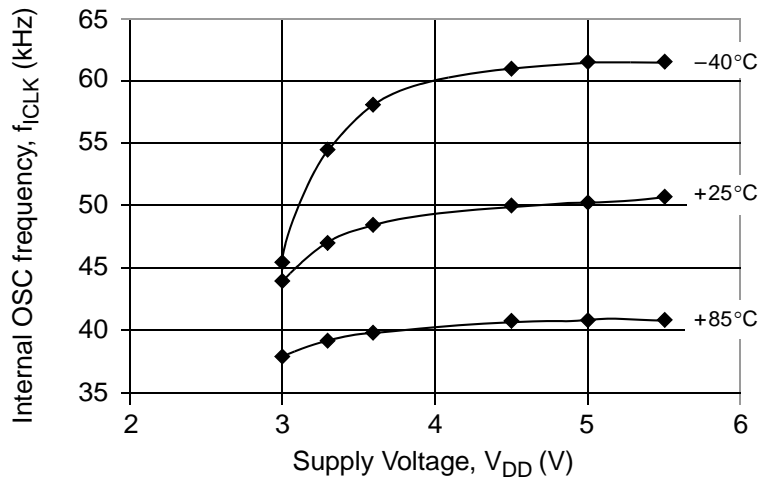

Figure 24-1. Typical Internal Oscillator Frequency
- Typical value reflect average measurements at midpoint of voltage range, 25 \times C only. See Figure 24-1 for plot.
1. Typical value reflect average measurements at midpoint of voltage range, 25 xC only. See Figure 24-1 for plot.